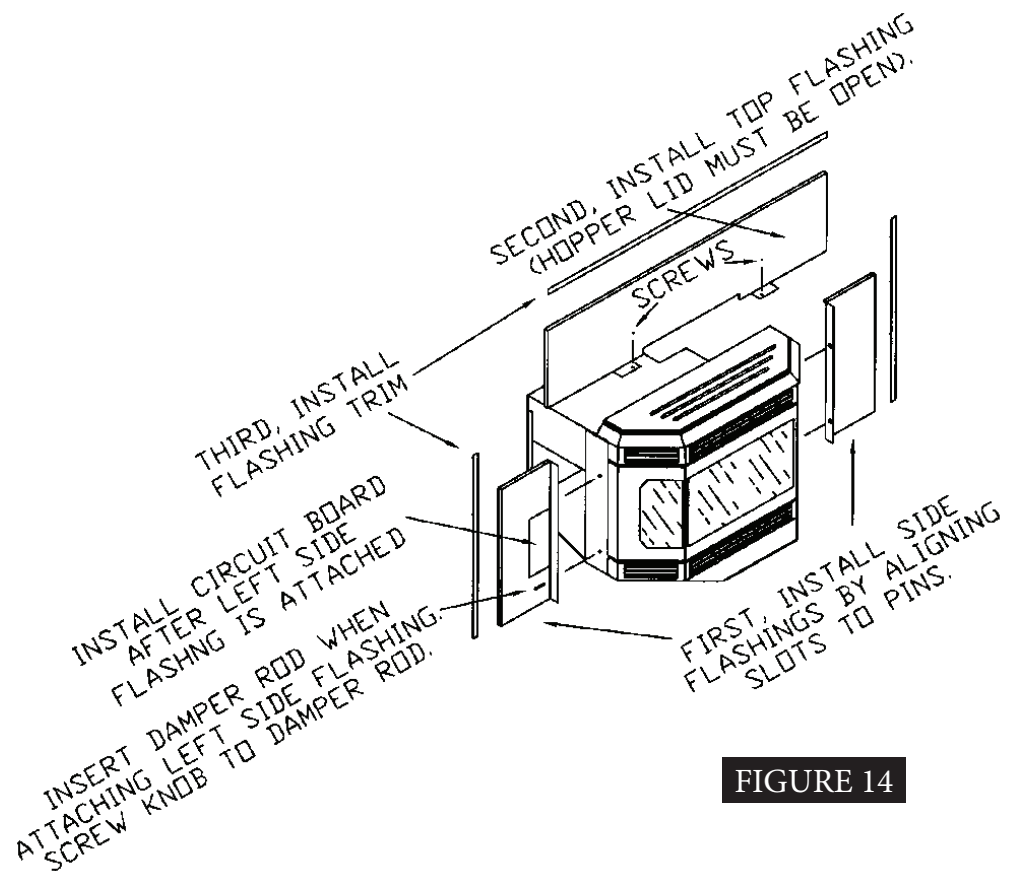

FIGURE 14
Follow the instructions packaged with the SP2000 Flashing set part C-P2KI-SMFL, C-P2KI-MED, or C-P2KI-LG. (Refer to Figure 14)
4. Attach flashing (refer to Figure 14), route power cord out the side nearest a 120V receptacle. Slide in insert.
6. Attach flashing (refer to Figure 14), route power cord out the side nearest a 120V receptacle. Slide in insert.